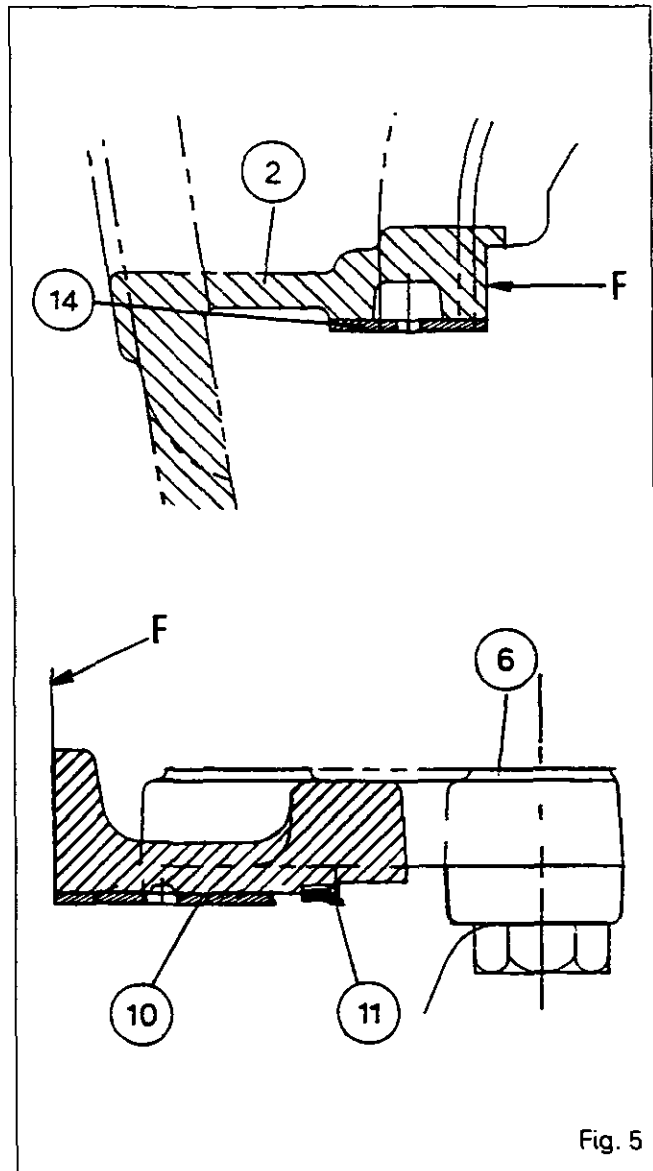
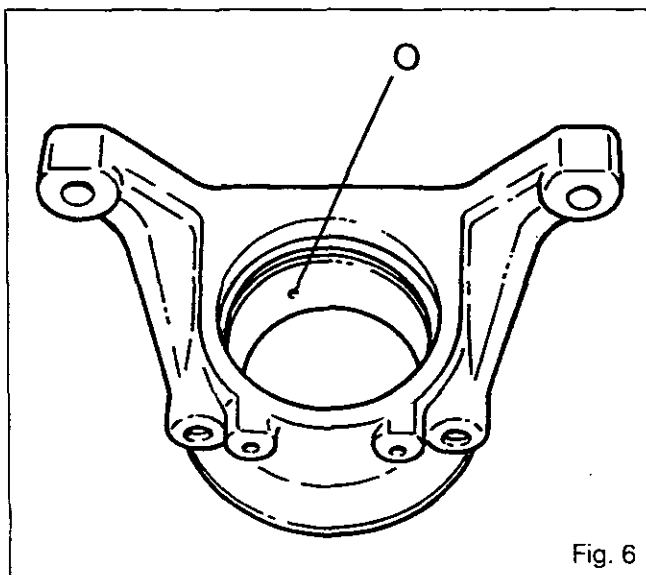

Fig. 5
Fig. 6
18. Clean the parts, using a press and a suitable fixture, fit the bushes in their respective supports flush with face «F» (Fig. 5) with opening «O» facing upwards (Figures 6 and 7) and aligned with the lubricating channel. Fit the seal (11) fully home on the shoulder of the support (6).